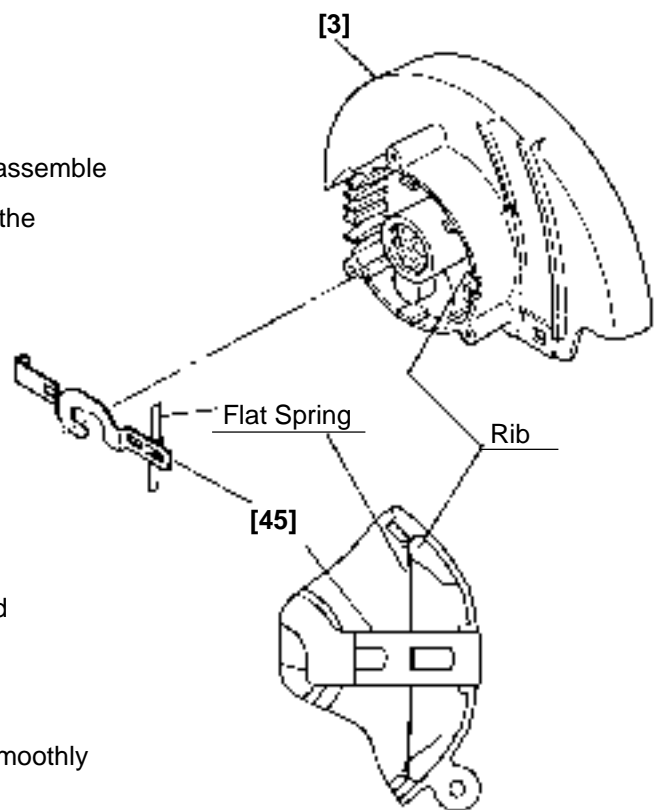

Fig. 4
(3) Reassembly of the Lock Lever **[45]** (See Fig. 4.)
B. Carefully ensure that both ends of the flat spring on the Lock Lever **[45]** are properly supported inside the ribs of the Gear Cover Ass'y **[3]** as illustrated in Fig. 4.